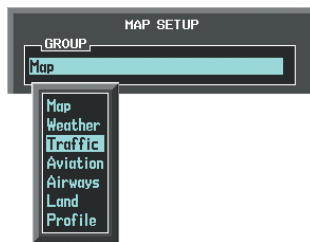

Figure 6-157 Navigation Map Page Setup Menu
- 4) Turn the small **FMS** Knob to select the 'Traffic' Group and press the **ENT** Key (Figure 6-157).